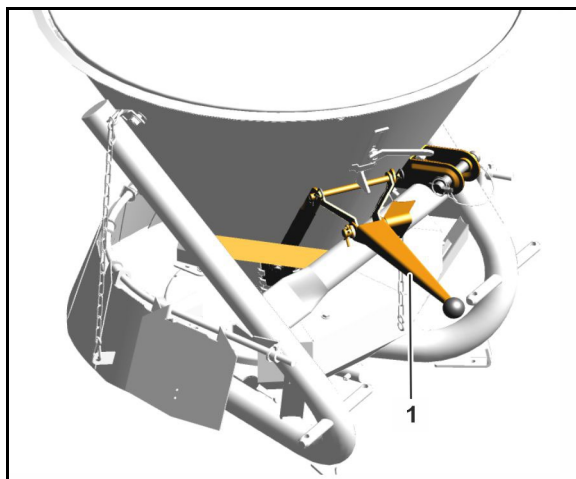

Fig. 9
- For **closing** the outlet opening swivel the hand lever (Fig. 9/1) right to the top.
- For **opening** the outlet opening swivel the hand lever downwards (Fig. 9/1) until the stop of the spread rate adjustment.